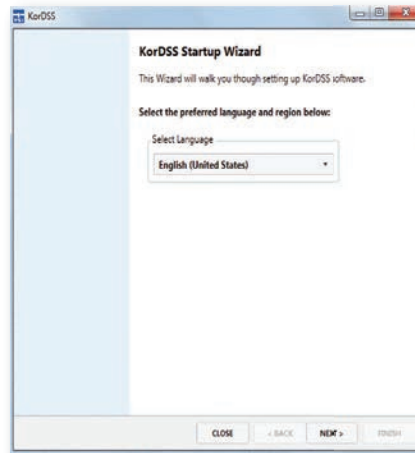

Figure 88 KorDSS language preference
1. After Windows has successfully updated the driver software, start KorDSS and set the language preference (Figure 88). Click **Next**.